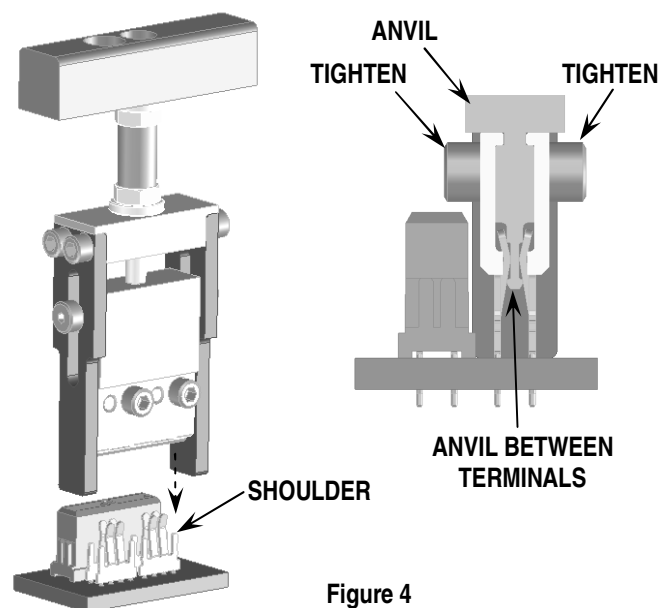

Figure 4
4. Position the Anvil Block between terminal rows. The clamp plate bottom rests on top of the terminal shoulder. See Figure 4.
5. Using a 7/64" hex key, tighten the (2) clamp plates. The clamp plates fit into a key slot in the anvil. Tighten the #6 SHCS so that the clamp plates "bite" into the terminals. Do not over tighten. See Figure 4.